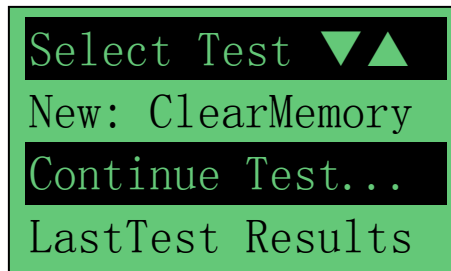

Figure 40
2. Connect the analyser to the battery terminals and the display will light up as shown (Fig 40).